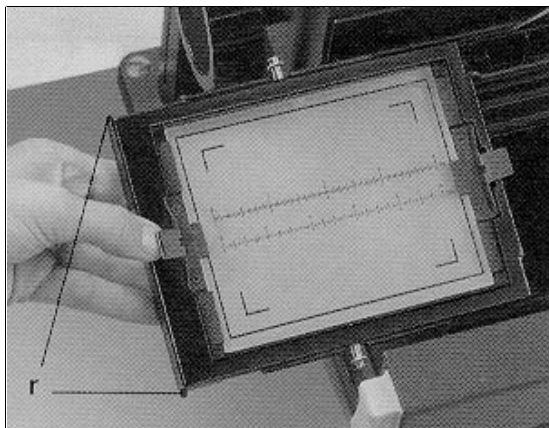

Figure 2-29. Orienting Ground Glass
- a. One end of the ground glass frame has two small protrusions (r, figure 2-29) near its base. Hold the frame in the left hand with the protrusions pointing to the left.